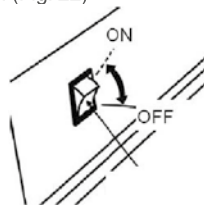

Fig. 22
10.1.1 Check if the ignition switch is at ON position. (Fig. 22)